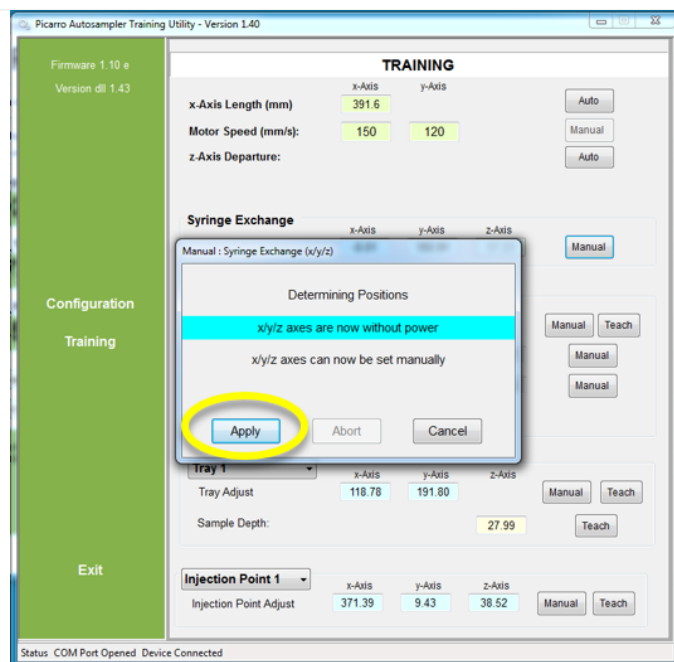

Figure 151. Click Apply on the Pop-up Window for Injection Point.
STEP 26 | Return to the application and click “**Apply**” on the pop up window to activate the test run (**Figure 151**). You can now close the training program window